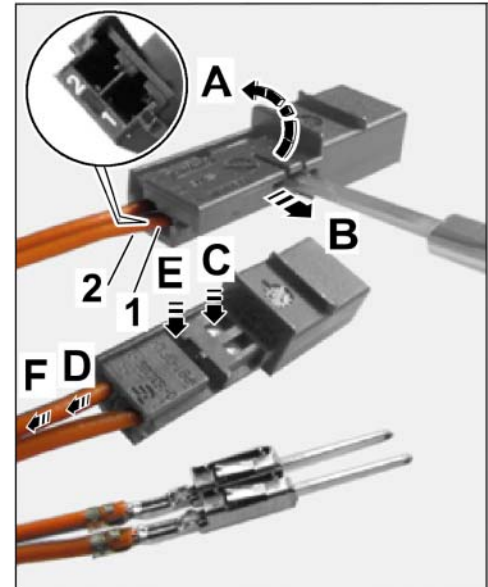

Figure 13
- Release connector housing for CAN bus (2-pin) (⇒ *Figure 13 -A and B-*).
- Press lightly on retaining spring on the pin contact (⇒ *Figure 13 -C-*) and pull line with pin contact out of the connector housing slightly at the same time (⇒ *Figure 13 -D-*).
- You may have to do this a second time because of the housing bar (⇒ *Figure 13 -E and F-*).